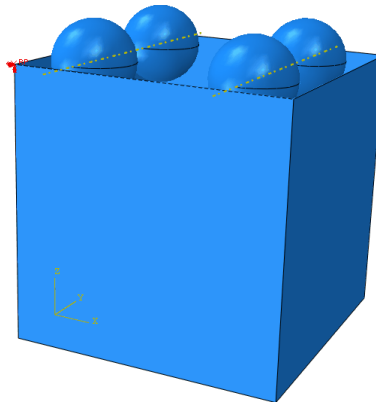

Figure L1a–12. Fix the reference point.
4. Since this part is a rigid body, all the loading and boundary conditions for this part can be imposed on the reference point, as shown in Figure L1a–12.